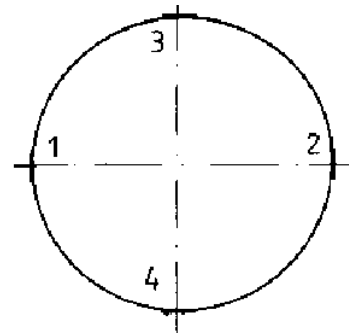

Fig. 13
9. Tighten all locking pins on the access fitting. The pins must be tightened evenly around the access fitting, in order to avoid the plug being pushed against one side of the fitting. Therefore, screw in all pins until they touch the plug. Then tighten one by one (fig. 13) approx. 1/4 of a turn, and repeat until all locking pins are sufficiently tightened. Expect a total of 3-4 turns for adequate tightening.